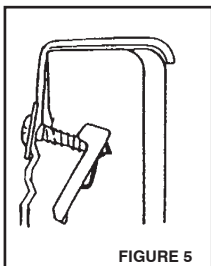

FIGURE 5
4. Insert screw tip into hole and metal clip of fastener and turn one or two rotations, or until tip of screw in engaged into fastener. **IMPORTANT:** The "Liner-Lok™" must be in a loose downward-hanging position at this time. (see FIGURE 5)